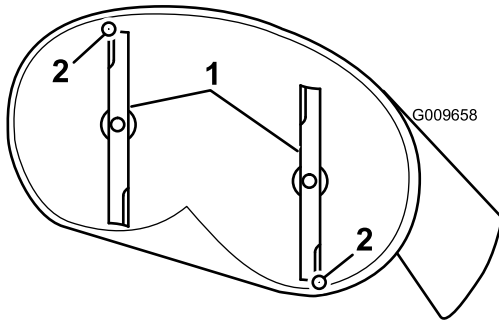

Figure 53
4. Carefully rotate the blades so they are facing front to rear (Figure 53).
5. Measure from the tip of the front blade to the flat surface, and the tip of the rear blade to the flat surface (Figure 53).
9. After adjustment, check the front-to-rear slope again, continue adjusting the nut until the front blade tip is 1.6 to 7.9 mm (1/16 to 5/16 inch) lower than the rear blade tip (Figure 53).